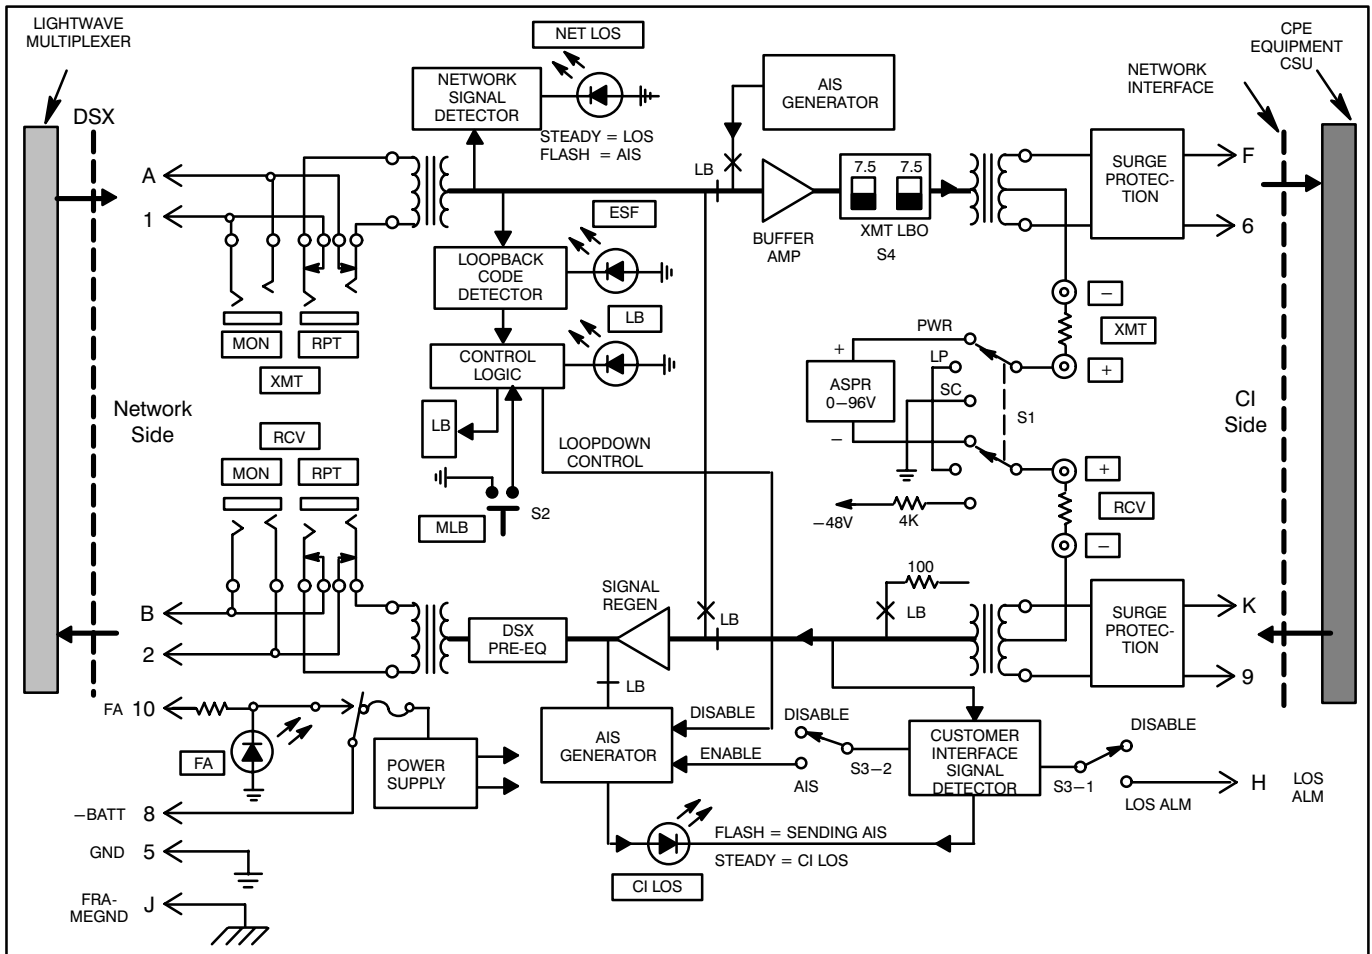
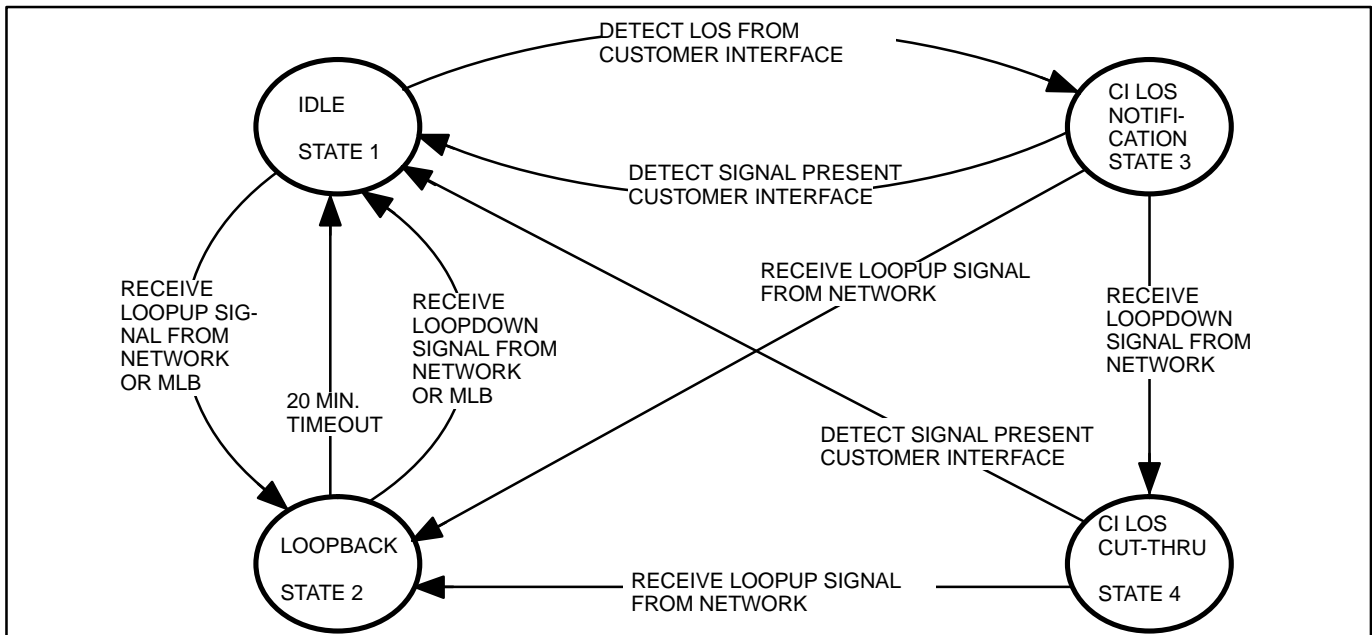
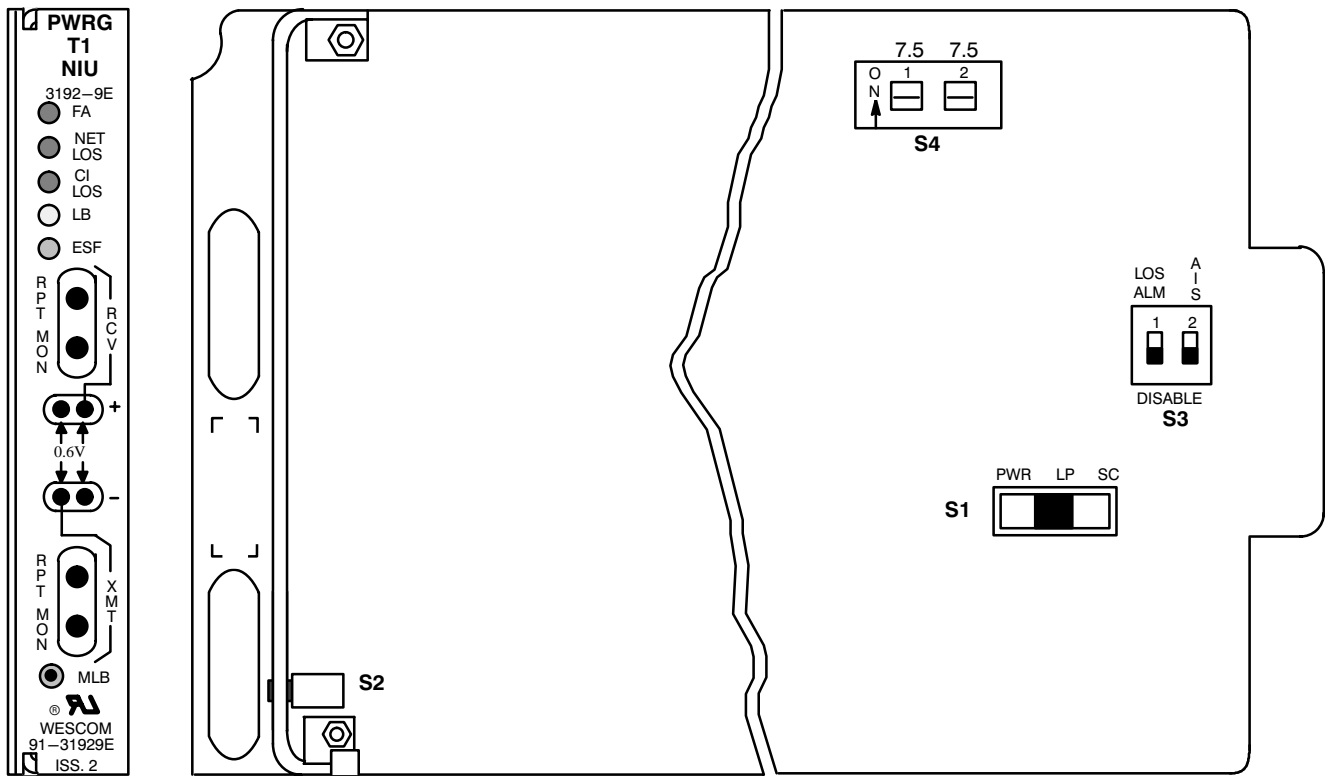

Figure 4. 3192-9E T1 Powering NIU Block Diagram
Figure 5. 3192-9E Operational State Table
Figure 6. 3192–9E Front Panel Features and Options Location
This practice is reprinted to correct Figure 4 and related text. The Issue 2 equipment provides one additional loop up code and one additional loop down code over the Issue 1 equipment; form remains unchanged.
Refer to Figure 4, the 3192–9E Block Diagram, Figure 5, the 3192–9E State Table, and Figure 6, Front Panel Features and Options Location, when reading the following circuit description.
The Customer Interface Signal detector continuously monitors the unit's receive path. If a LOS (Loss Of Signal) is detected, as indicated by receipt of 175 ± 75 consecutive zeros from the customer's equipment, a LOS is declared. This is shown as the transition from State 1 to State 3 (see Figure 5). In State 3, the unit will now send an AIS signal toward the network as an indication that the customer equipment is disconnected or not operational. The CI LOS LED will flash since the unit is sending AIS.
S1 (see Figure 6) is a 3-position slide switch used to select CI side power modes: line powering (PWR), sealing current (SC), and looped simplex (LP).
S3–1 is used to enable or disable sending a LOS (Loss of Signal) condition alarm to the shelf alarm buss. The LOS condition is detected by the Customer Interface Side Signal detector. For more information, see Paragraphs 3.10 and 3.11, and Figure 6.
S4 is a 2-section switch used to adjust the transmit pad, allowing transmit path losses of 0, 7.5 and 15dB. See Figure 6.